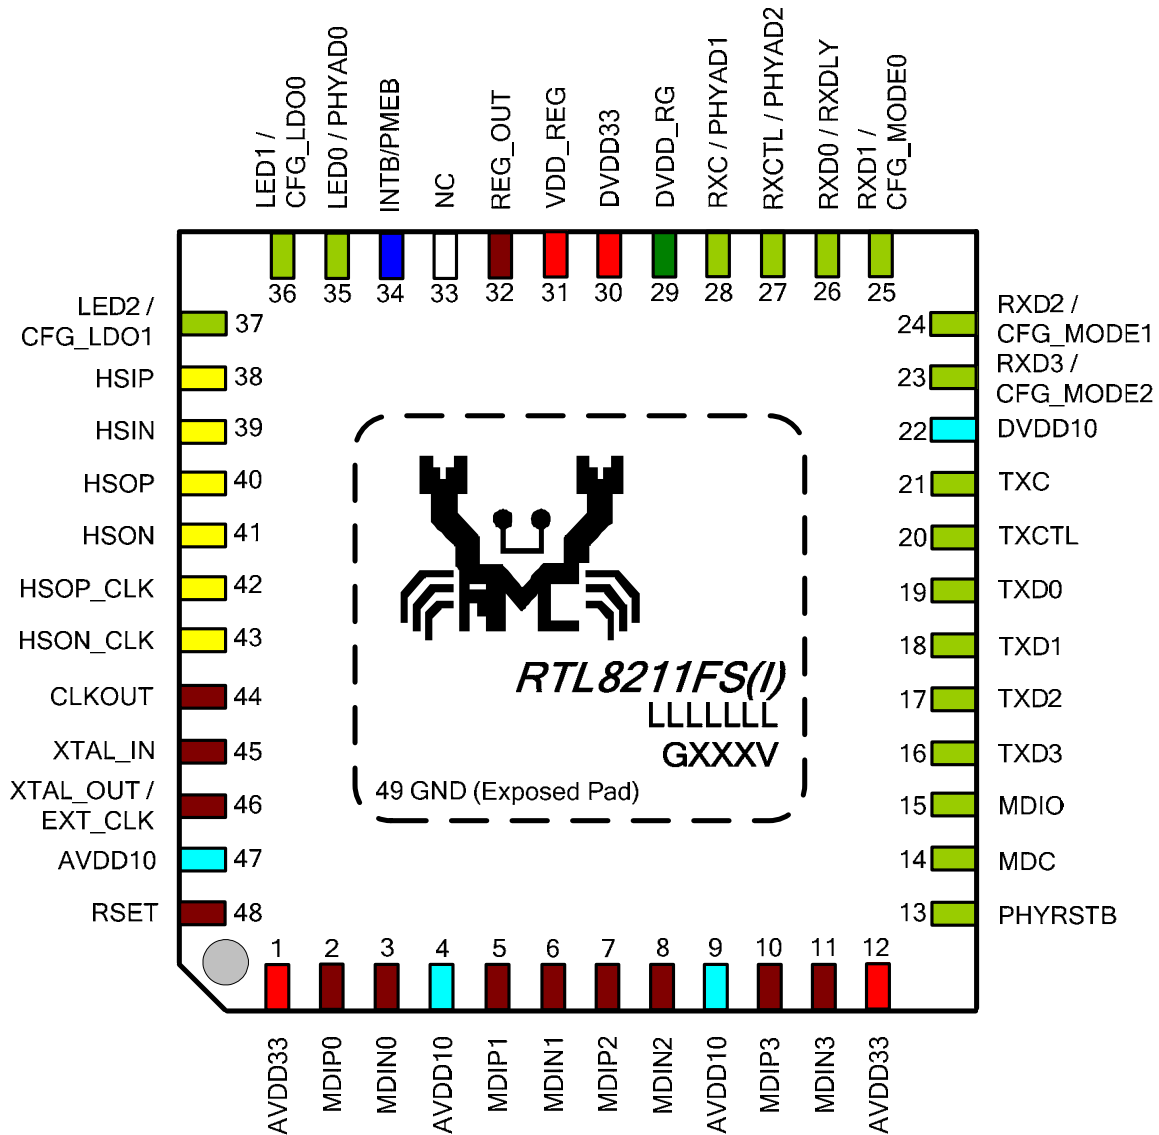

Figure 8. RTL8211FS(I) Pin Assignments (48-Pin QFN)
| FIGURE 8. RTL8211FS(I) PIN ASSIGNMENTS (48-PIN QFN)..... | 8 |
Green package is indicated by the 'G' in GXXXV (Figure 8).